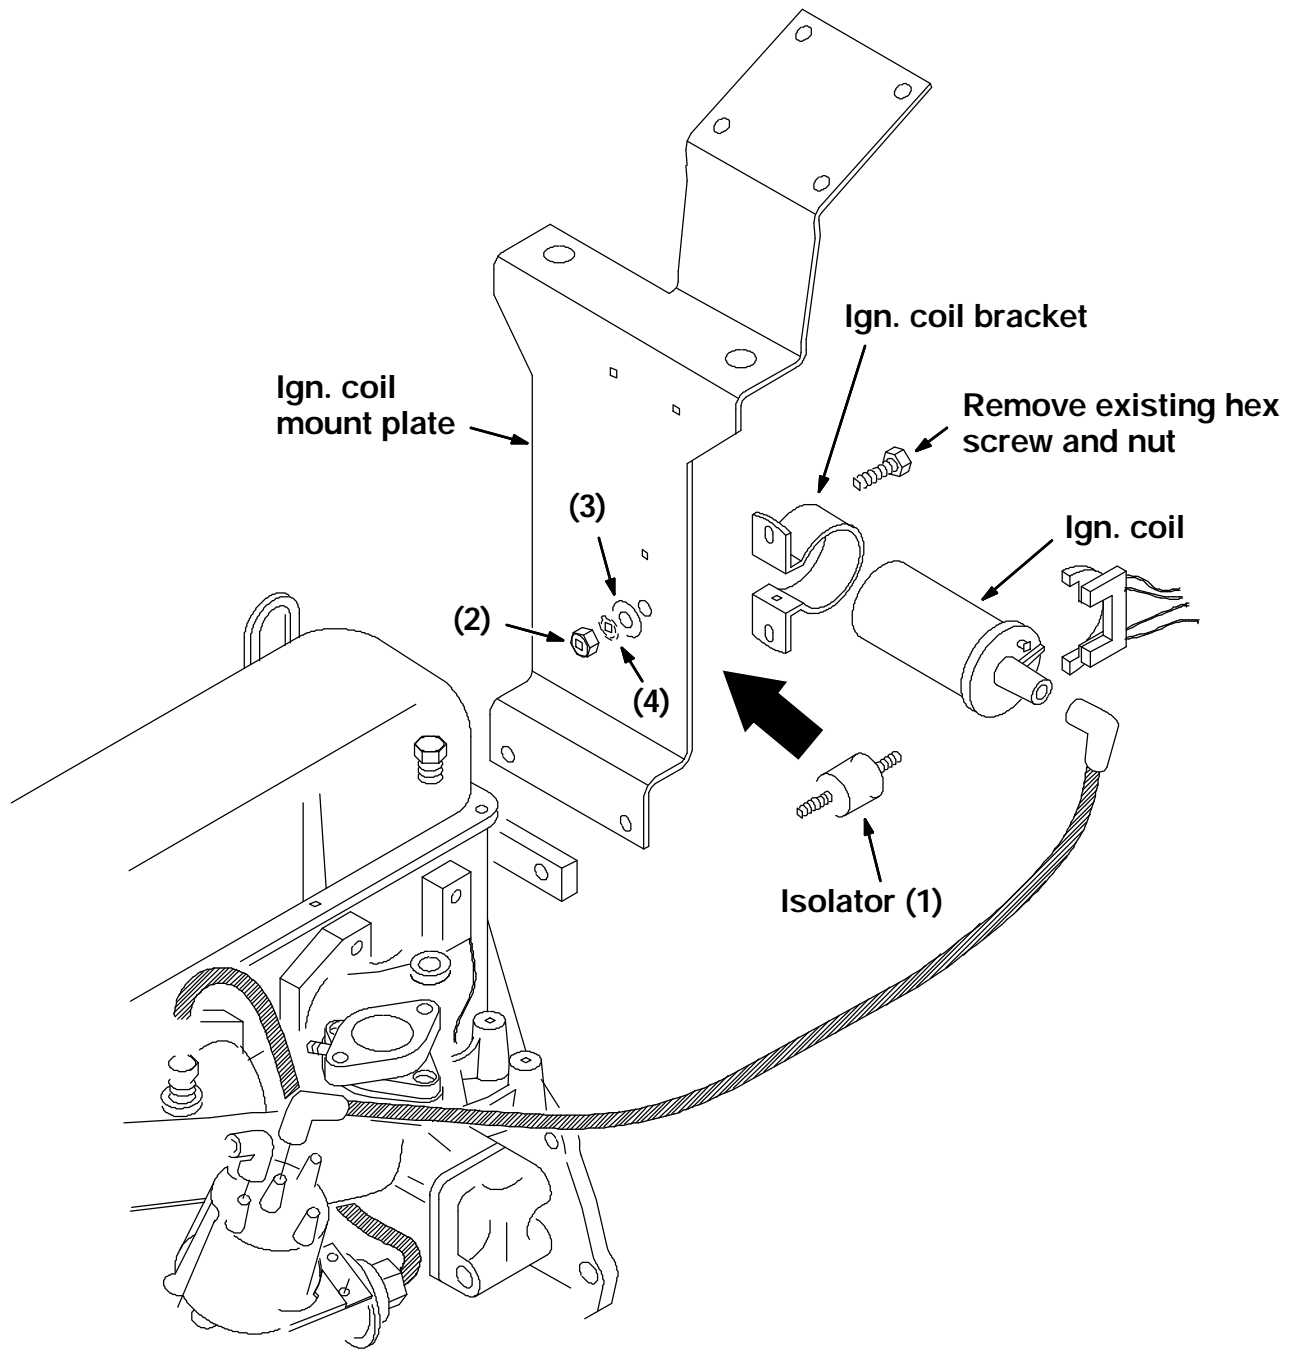

FIG. 1 - Engine Coil
(Refer to FIG. 1)
1. Install the two isolators (1) in the holes on the mount bracket. Use two flat washers (3), two lock washers (4), and two hex nuts (2). Tighten to 5 - 7 ft lb. (Refer to FIG. 1)
2. Install the ign. coil on the studs of the two isolators. Use two flat washers (3), two lock washers (4), and two hex nuts (2). Tighten to 5 - 7 ft lb. (Refer to FIG. 1)
NOTE: The isolators end up between the coil bracket and the mount plate. (Refer to FIG. 1)